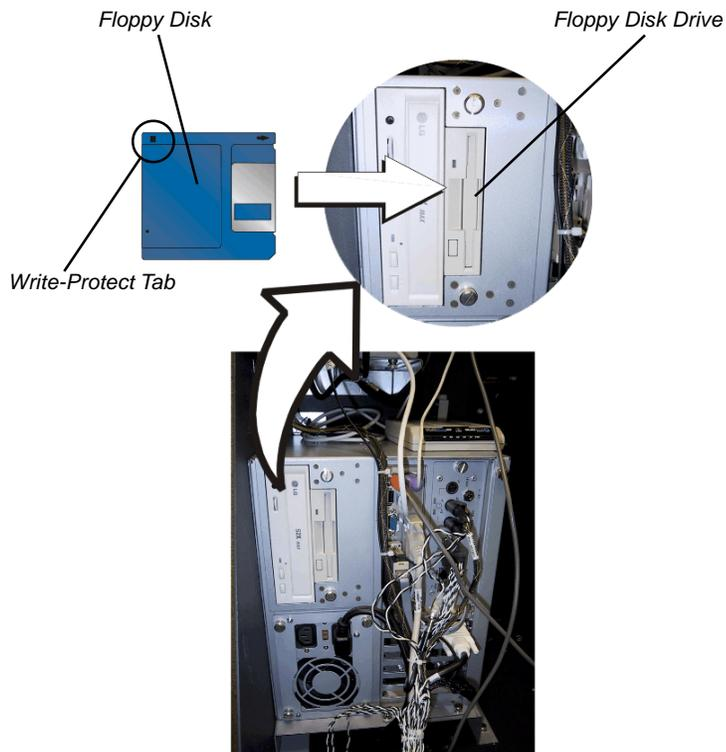

Fig. 8-2. Location of Floppy Disk Drive.
2. Locate the floppy disk drive, as shown in Figure 8-2.